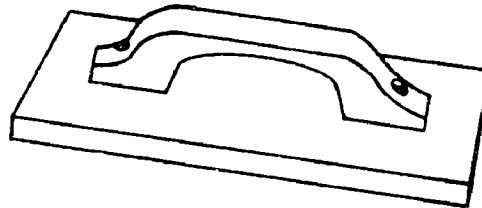

Fig. 45. Wood
- b. Figure 45
- a. Figure 45
- c. Figure 45